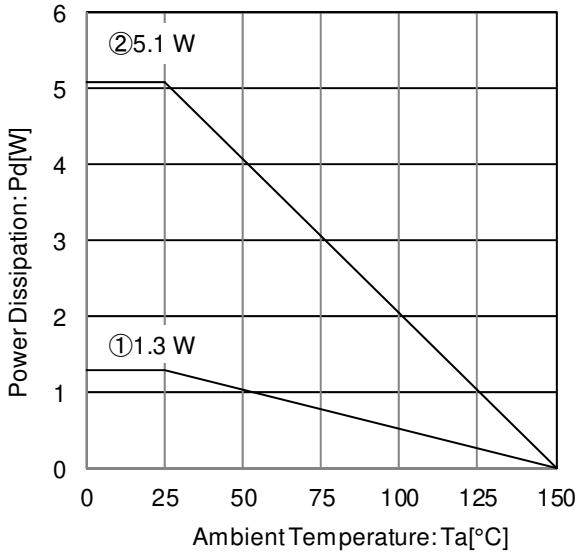

Figure 25. Package Data (TO252-3)
Refer to the heat mitigation characteristics illustrated in Figure 25 when using the IC in an environment of  $T_a \geq 25^\circ\text{C}$ . The characteristics of the IC are greatly influenced by the operating temperature, and it is necessary to operate under the maximum junction temperature  $T_{\text{max}}$ .
Figure 25 show the power dissipation and heat mitigation characteristics of the TO252-3 package. Even if the ambient temperature  $T_a$  is at  $25^\circ\text{C}$  it is possible that the junction temperature  $T_j$  reaches high temperatures. Therefore, the IC should be operated within the power dissipation range.
At  $T_a = 125^\circ\text{C}$  with Figure 25 ② condition, the calculation shows that ca 100mA of output current is possible at 10.2V potential difference across input and output.
At  $T_a = 125^\circ\text{C}$  with Figure 25 ② condition, the calculation shows that ca 120mA of output current is possible at 8.5V potential difference across input and output.